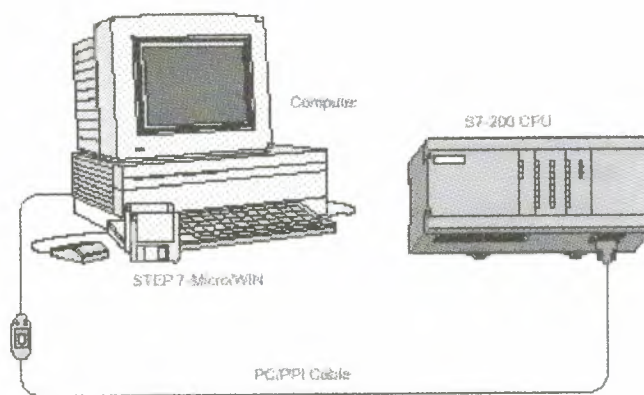

Figure 6.2 The basic S7-200 Micro PLC system
Figure 6.2 shows the basic S7-200 Micro PLC system, which includes an S7-200 CPU module, a personal computer, STEP 7-Micro/WIN programming software, and a communications cable. In order to use a personal computer (PC), you must have one of the following sets of equipment:
- A communications processor (CP) card and multipoint interface (MPI) cable